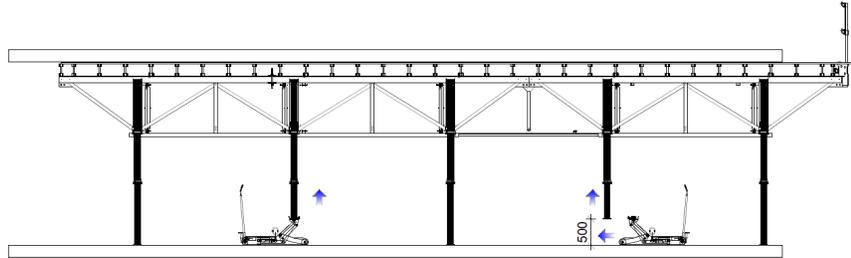

Fig. A3.02
2. Spindle the second prop from the front and the additional 'STN' props (refer to 'Lifting Clamp Locations' for STN location) approx. 50 cm. Move four Lowering Devices STN under the spindled props.(Fig. A3.02)